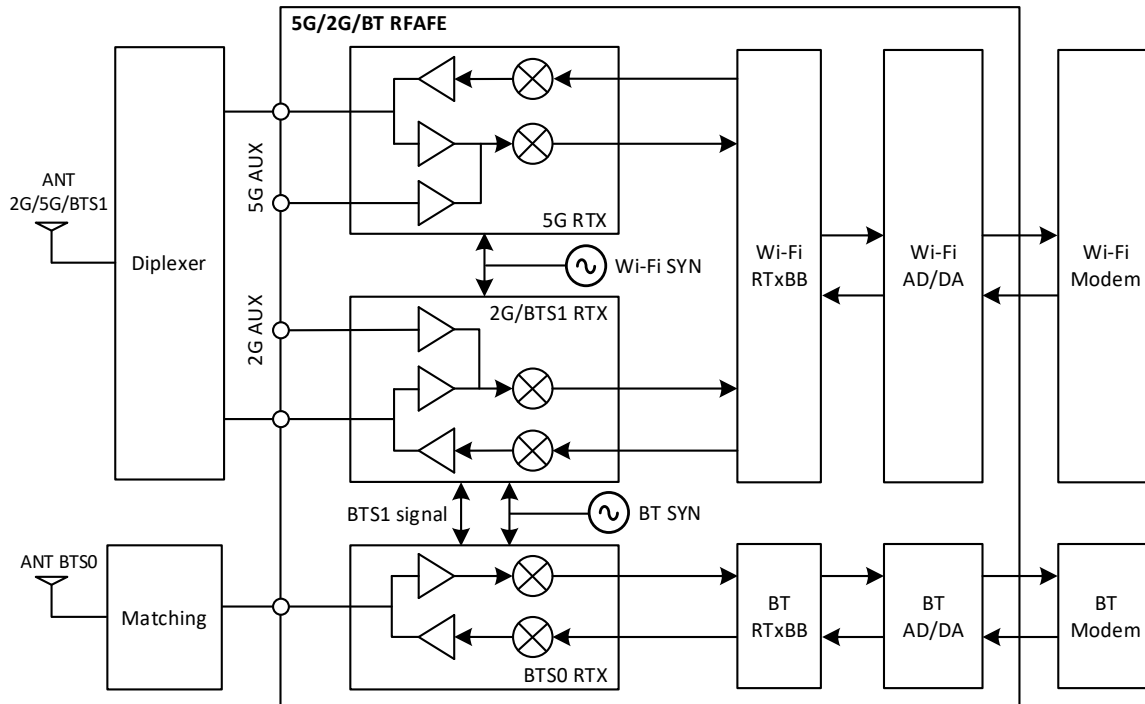

Figure 3-5 RF block diagram
The radio frequency (RF) block diagram of RTL8730E, including WLAN and BT modem, is given in Figure 3-5.